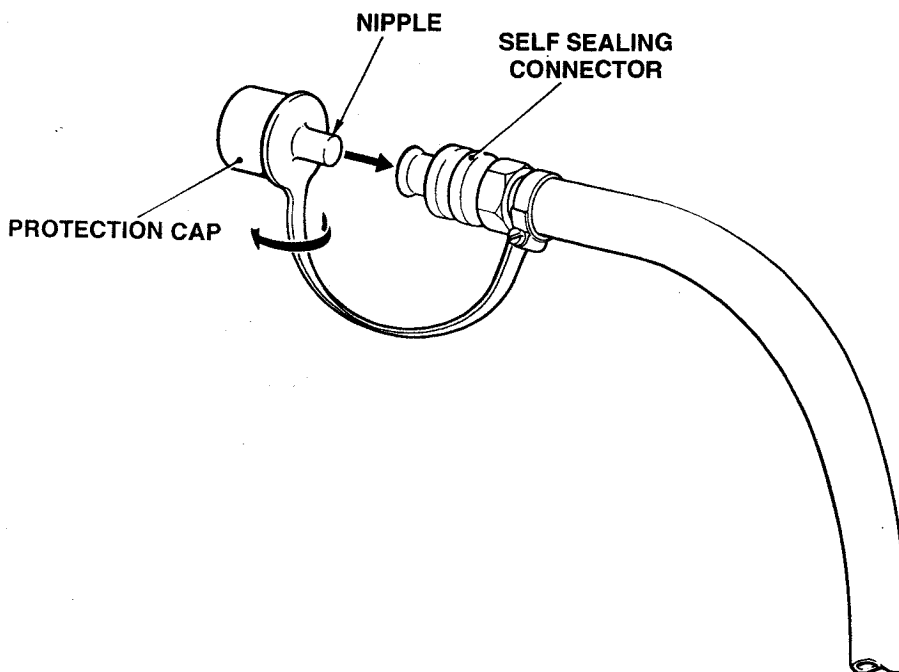

Fig 8 Draining the jerrycan adaptor assembly
- 15.3 With the dip tube in the jerrycan suspended above the fuel level, hold the fuel pipe above the jerrycan and insert the nipple of the protection cap (Fig 8) into the quick release connector. This will allow air into the fuel pipe enabling the retained fuel in the fuel pipe to drain into the jerrycan.